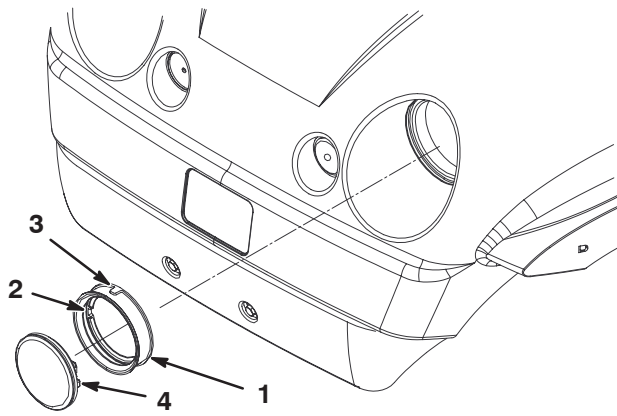

Figure 31
4. Remove the rubber seal from around the headlight (Fig. 31). Discard the headlight.
5. Align the notch on the inside of the seal with the notch on the new headlight (Fig. 31). Slide the seal onto the headlight until the seal is firmly in place.